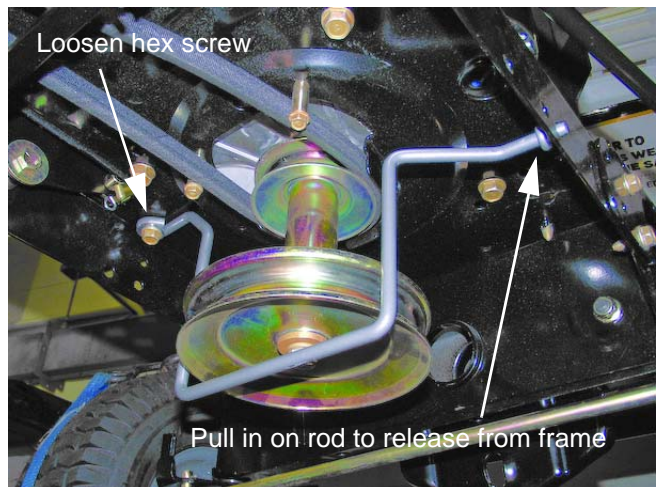

Figure 5.50
- 5a. Using a 1/2" socket with an extension, loosen the hex screw securing the wire belt keeper around the engine pulley. See Figure 5.50.